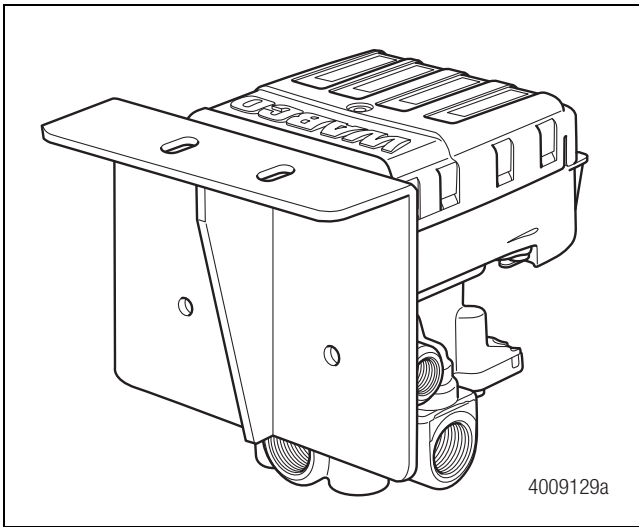

Figure 8
NOTE: The 2S/1M RSS 1M is typically center mounted directly on the air reservoir. Alternately, a bracket may be fabricated using steel at least 3/16-inch (4 mm) thick or mounted directly to the cross member. Figure 8.
NOTE: The RSS 1M ECU is typically tank mounted. Alternately, a bracket may be fabricated using steel at least 3/16-inch (4 mm) thick or mounted directly to the cross member. Figure 8.
- Build a mounting bracket with two 1/2-inch (13 mm) mounting holes with 3-1/2-inches (89 mm) center-to-center distance between the two holes. The bracket must be made of cold rolled 1040 to 1080 steel with a reinforcing gusset. Figure 8.